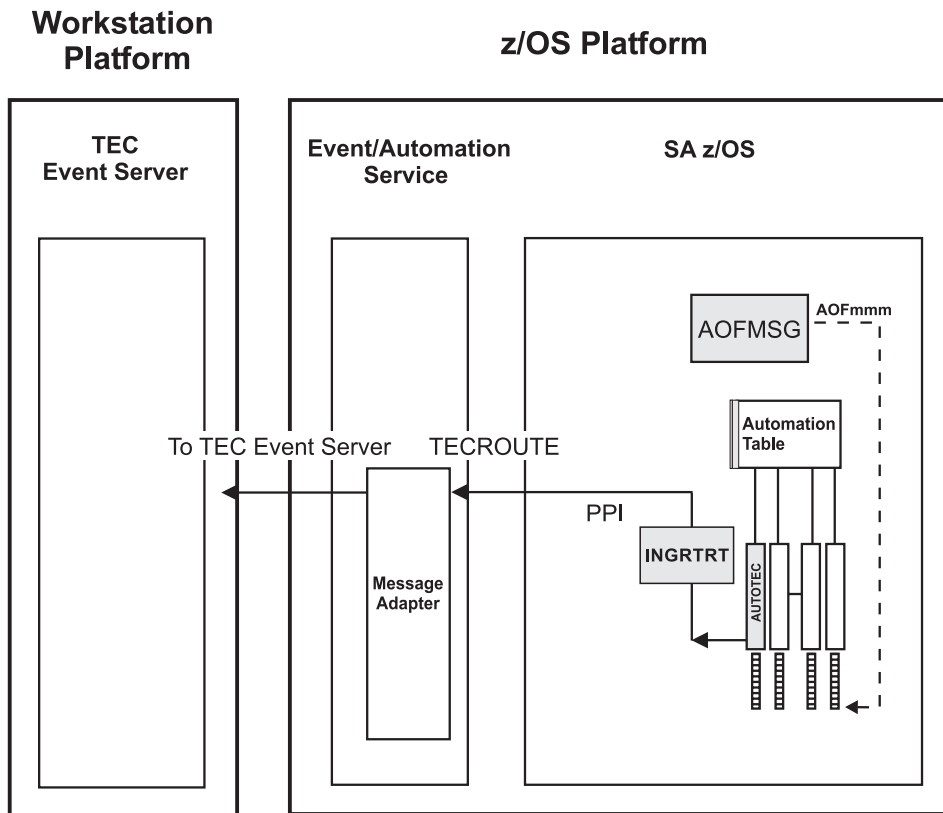

Figure 7. Local Configuration: NetView Event/Automation Service Local to the SA z/OS Source of Messages
- **local configuration:** The message adapter or alert adapter is running on the same z/OS system on which SA z/OS is also running. The adapters are local to the SA z/OS which is issuing and forwarding messages and alerts to the Tivoli Enterprise Console. Such a configuration for message forwarding is illustrated in Figure 7 on page 42.